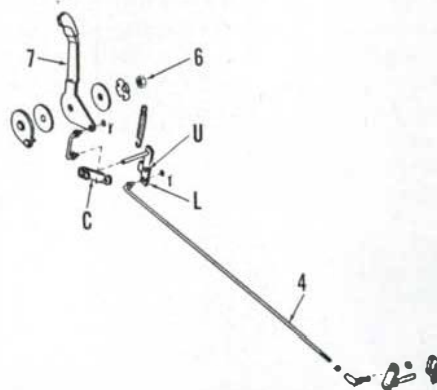

Fig. 46—Drawing of throttle control linkage typical of all except Orchard models. Refer to text for points of adjustment and to Fig. 47 for legend.
Initial adjustment of linkage can be accomplished as follows: Measure length of rod (3—Fig. 48) from centerline of rod end at top to lower end of sleeve inside spring. Correct distance is 236.5 mm (9-5/16 inches) for MF230 models; 239.7 mm (9-7/16 inches) for MF235 and MF245 Orchard models; 242.9 mm (9-9/16 inches) for all other MF235 and MF245 models. Correct length from center-to-center of rod (4—Fig. 46 or 47) is 565.2 mm (22-1/4 inches) for MF235
and MF245 Orchard models; 701.7 mm (27.5/8 inches) for all other models. Rear end of throttle rod (4) should be in upper hole (U) for rear spring arm for MF235 and MF245 models; lowest hole (L) of rear spring arm for MF230 models. On Orchard models, length of rear rod (R—Fig. 47) should be 177.8 mm (7 inches) and spring bracket (B) should be clamped to rod 120.7 mm (4-3/4 inches) from centerline of ball joint at front. Loosen clamp arm (C), align with arm (S), then retighten clamp. On all except Orchard models, loosen clamp arm (C—Fig. 46) and position hand lever 6.4 mm (1/4 inch) from low speed stop position. Move the governor arm lever (2—Fig. 48) towards carburetor (closed position), then tighten clamp arm (C—Fig. 46.)